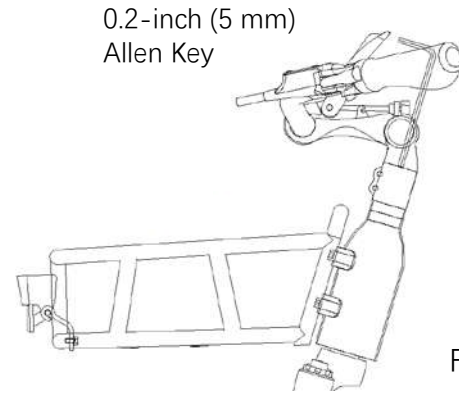

Figure 11.
3. Slide the handlebars onto the stem, angle the handlebars up/down, use the 5 mm Allen key to tighten the stem bolt down inside the tube, as shown in Figure 11.